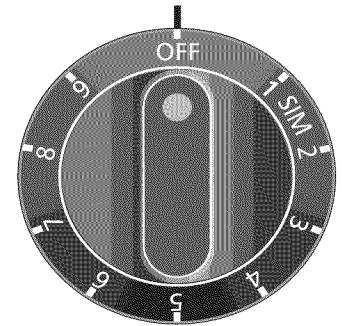

Figure 1
2. Push in and turn the surface control knob in either direction to the desired setting (Figure 1). Turn the knob to adjust the setting if desired. Start most cooking operations on a higher setting and then turn to a lower setting to finish cooking. Each surface element provides a constant amount of heat at each setting. A glowing red surface heating area extending beyond the bottom edge of the cookware indicates the cookware is **too small** for the surface heating area.
The range is equipped with a dual radiant surface element located at the right front (See Figures 3) position. Symbols on the control panel are used to indicate which coil of the dual radiant element will heat. The  symbol indicates that only the inner coil will heat (Figures 1, 3,4 and 5). The  symbol indicates that both inner and outer coils will heat (Figures 6, 8, 9 and 10). You may switch from either coil setting at any time during cooking.